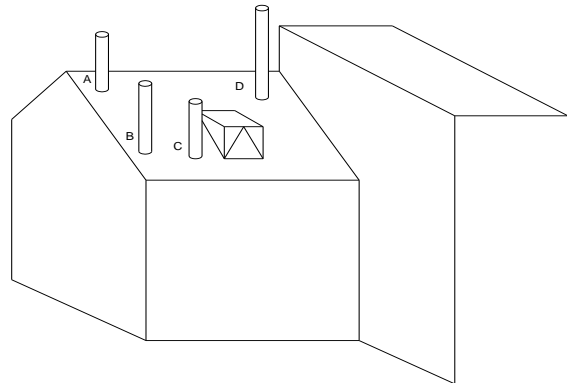

Fig 6.1
The condensate pipe may be run above or below ground level and can enter either the top or side of the soakway tube. Refer to figure 6.1
- The flue must terminate as per the details shown in Fig. 6-1.
- The flue must also discharge in a down draught free area, i.e. at least 1 metre above the point of exit through the roof or 600mm above the apex of the roof. See fig 6.1 for further details.